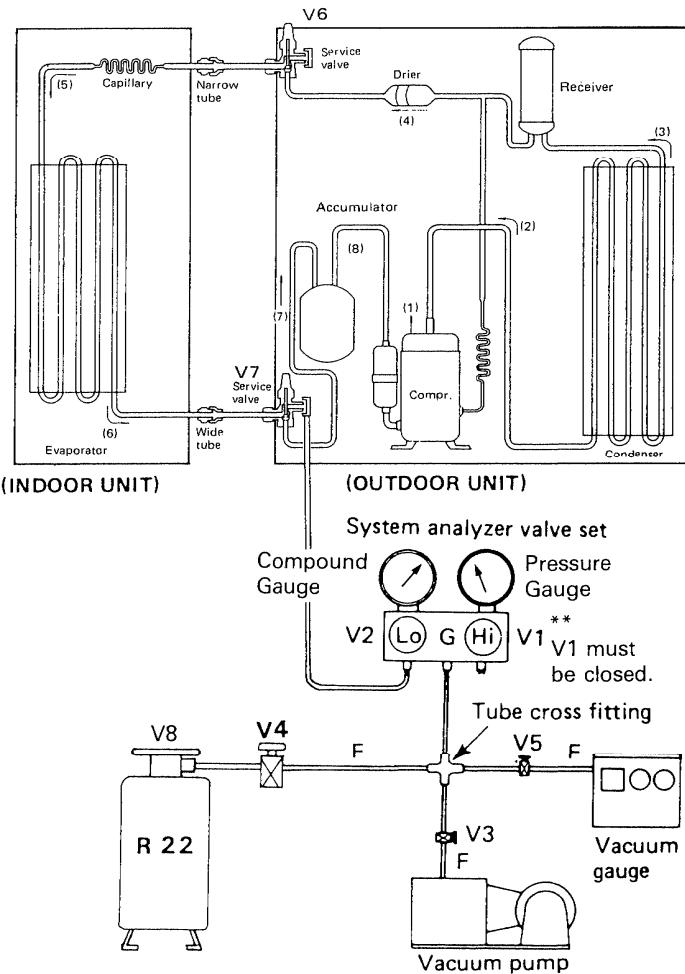

Fig. 23
- 1) Connect instrument as in Fig. 23.